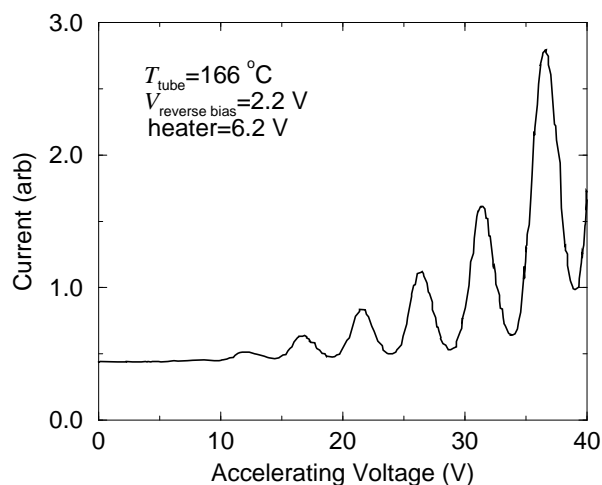

Figure 2: A sample of data taken with the computer.
the Hg atoms begin to strongly absorb energy, then the current drops off since the scattered electrons cannot overcome the reverse bias to reach counter electrode. If the accelerating voltage is increased beyond this point, the slowed electrons accelerate again until they have enough energy to once again inelastically collide with the Hg atoms. The total possible current goes up with voltage so you have a current versus voltage profile that looks like Fig. 2 with a series of dips and peaks.
6. Trying to see what is going on is much easier using an oscilloscope and the *Ramp* feature on the operating unit. Transfer the cables from the multimeters to the scope or else make connections in parallel. Set the scope to run in "XY" mode. (This is the mode you would have used for looking at Lissajous figures in AC circuits and is also useful for displaying IV characteristics of diodes and transistors. Access through the "DISPLAY" menu, then use the buttons at the side of the screen). Change the mode of operation to *Ramp* on the operating unit. Adjust the scales and positions until you see the IV curve on the screen. (neat, eh?) If you don't see something that looks like Fig. 2 see the next step in the *Procedure* for some advice. Adjust the accelerating voltage downward (you are still at 41 V?). You will probably see the curve clean up quite a bit. Turn back up slowly and you will see a bit of chaos at the high voltages. Take a look at the tube itself and you will probably see a bluish glow of gas discharge coming from the cathode. Turning the tube temperature up a bit will probably help extend your range. Try to push it up to 40 V. Now adjust the reverse bias: the peaks don't shift but the heights change. You may find better contrast at slightly lower reverse bias, near 2 V. Turn the cathode heater down a bit and notice what happens. Make a note of your final, best settings and temperature. If the temperature gets too high your peaks might wash out somewhat . I also noticed that there seems to be a fair bit of noise. Make a sketch of what you see.
8. The next part of the procedure is to use the computer to make a record of the data. You will manually ramp the accelerating voltage and let the computer record the XY points. Later you can produce a plot of the data using a computer plotting program. The data will hopefully look something like what you see in Fig. 2. Have a close look at the Franck-Hertz tube when you are at 30-40 V and you should see a series of blue stripes where the Hg gas is being ionized. (There should be a picture of this as part of the Labview front panel.)